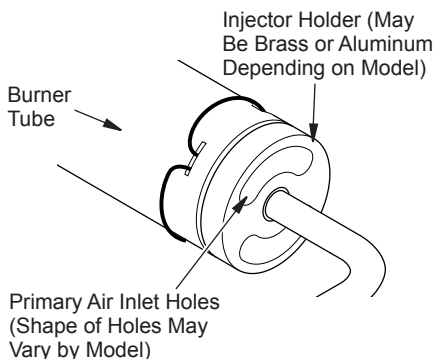

Figure 32 - Injector Holder On Outlet Burner Tube
3. Inspect burner, pilot, and primary air inlet holes on injector holder for dust and dirt (see Figures 32 and 33).